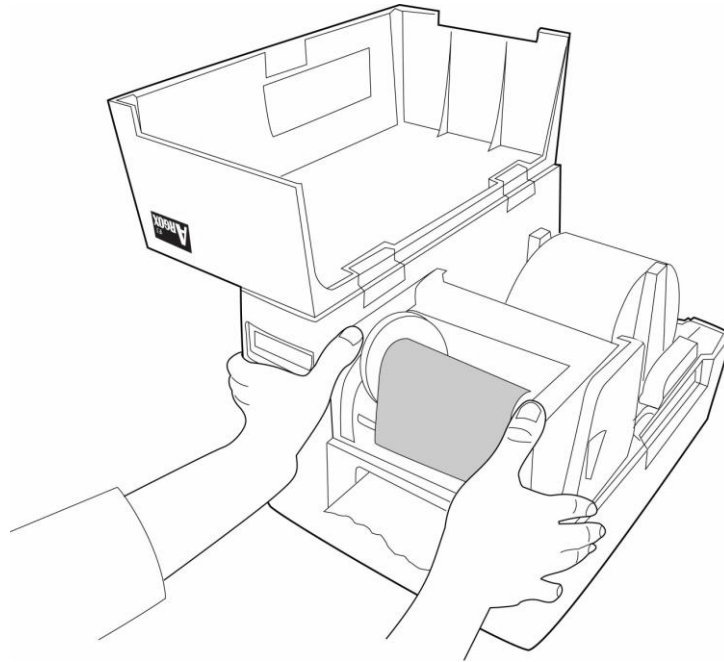

Figure 13
7. Close the print head module and then press it down firmly on both sides till you hear a snap. (Figure 13)